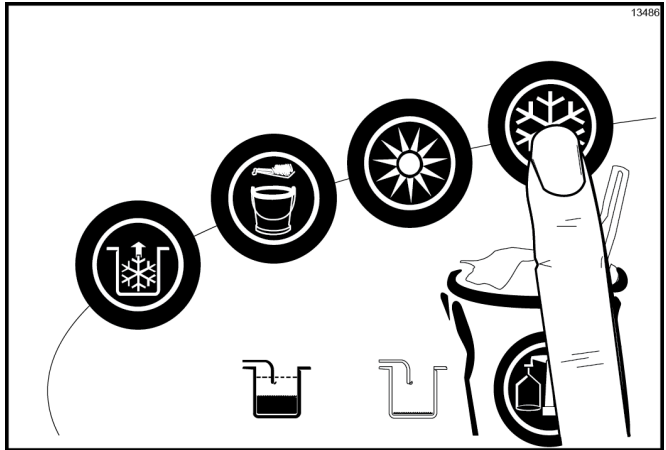

Figure-97
2. Cancel automatic operation by pressing the Auto symbol . (See Figure-97.)